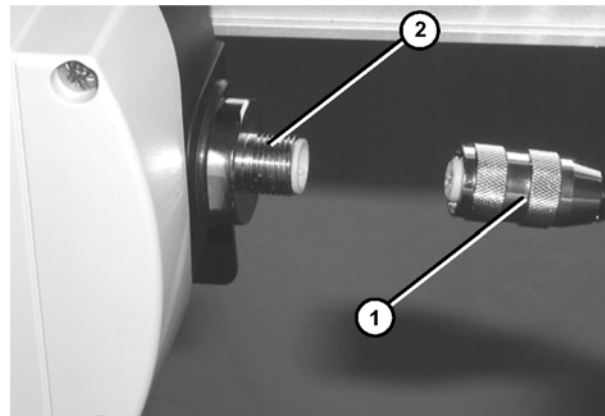

Figure 10
1. Plug linking cable kit (**Figure 10, item 1**) into button box kit (**Figure 10, item 2**).